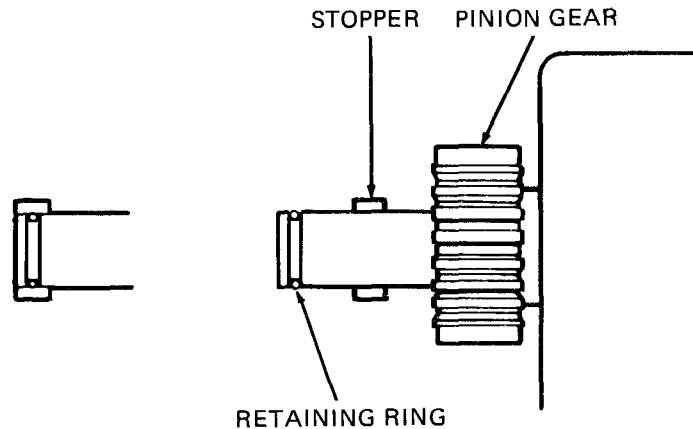

Figure 7-11. Pinion Gear Installation.
- (3) Install spring (27) and gear (24) on pinion shaft.
- (4) Refer to Figure 7-11 and slide stopper onto pinion shaft and install retaining ring (26, Figure 7-5) in groove. Stopper (25) must fully engage retaining ring when installed.